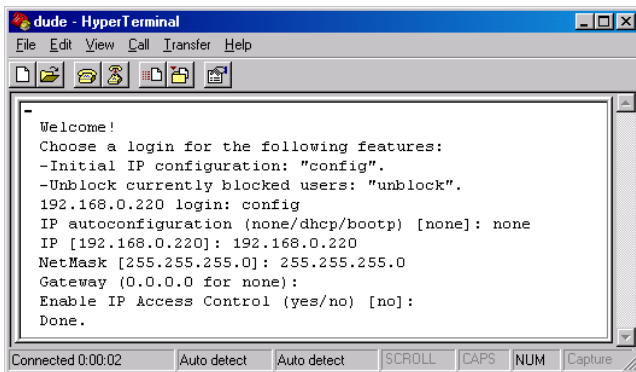

Figure 3 The Hyperterminal
- Click OK. The Hyperterminal appears. See Figure 3.